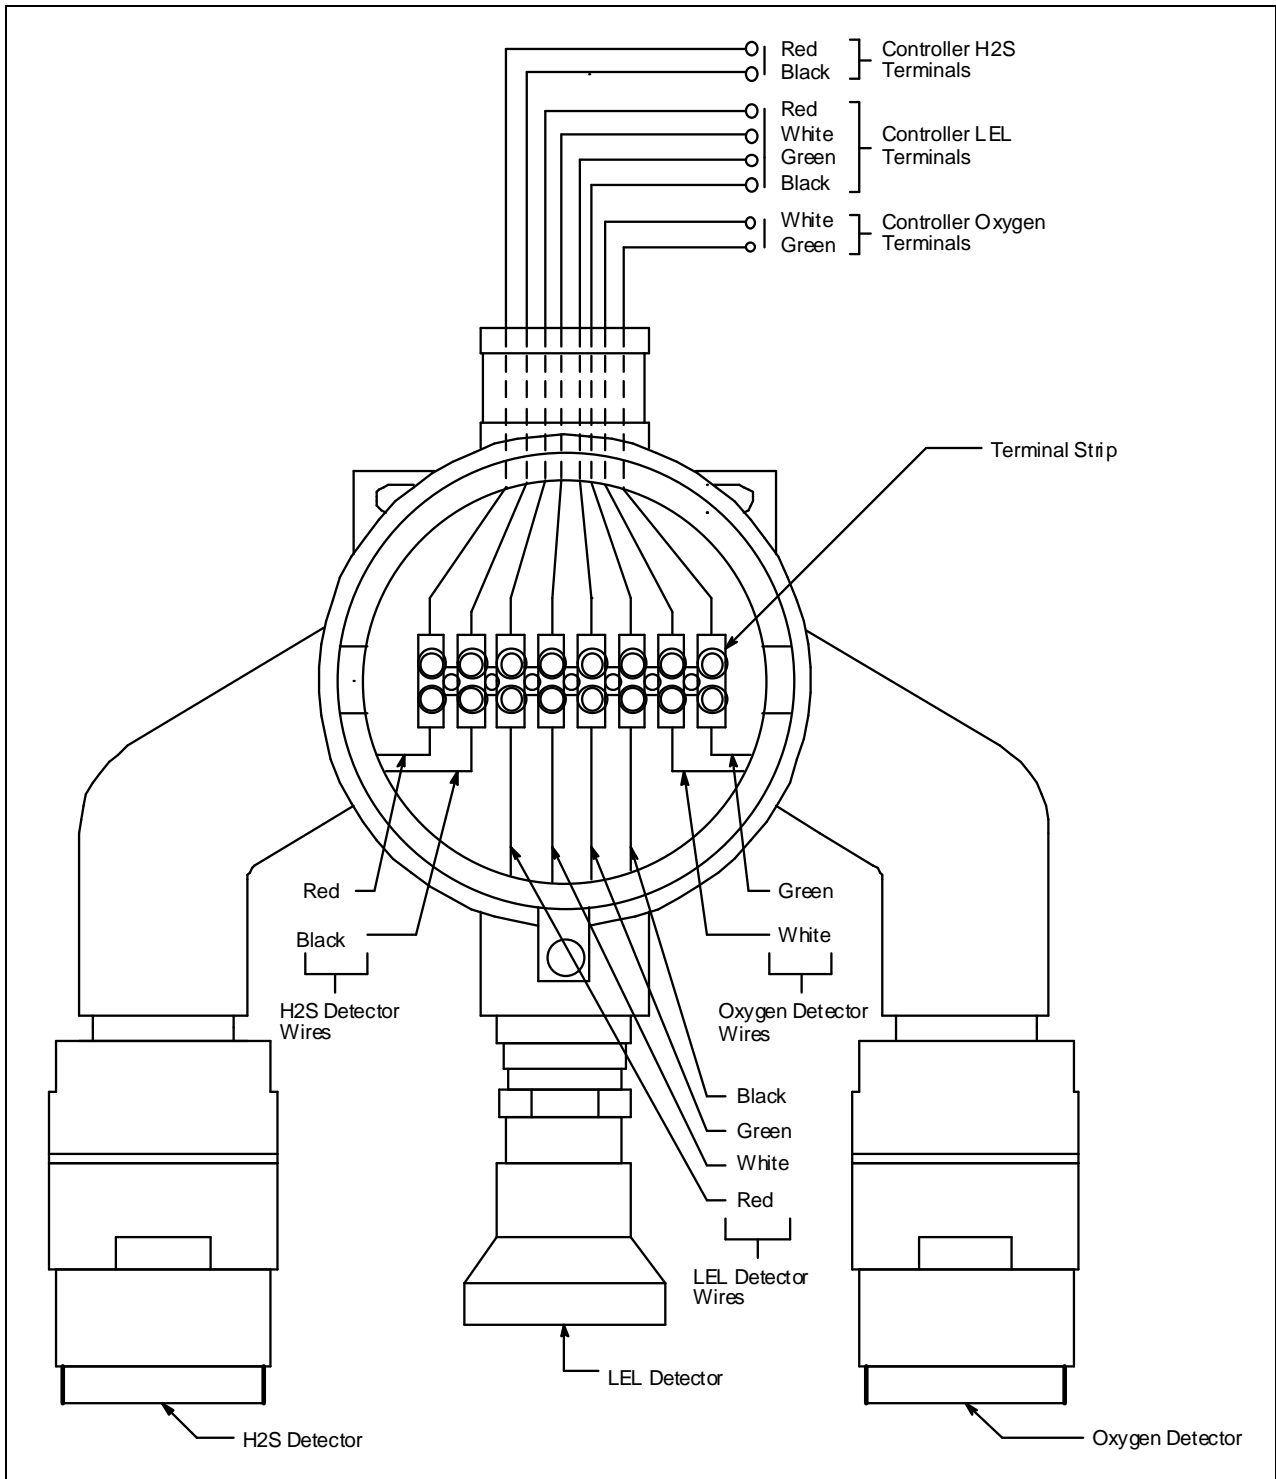
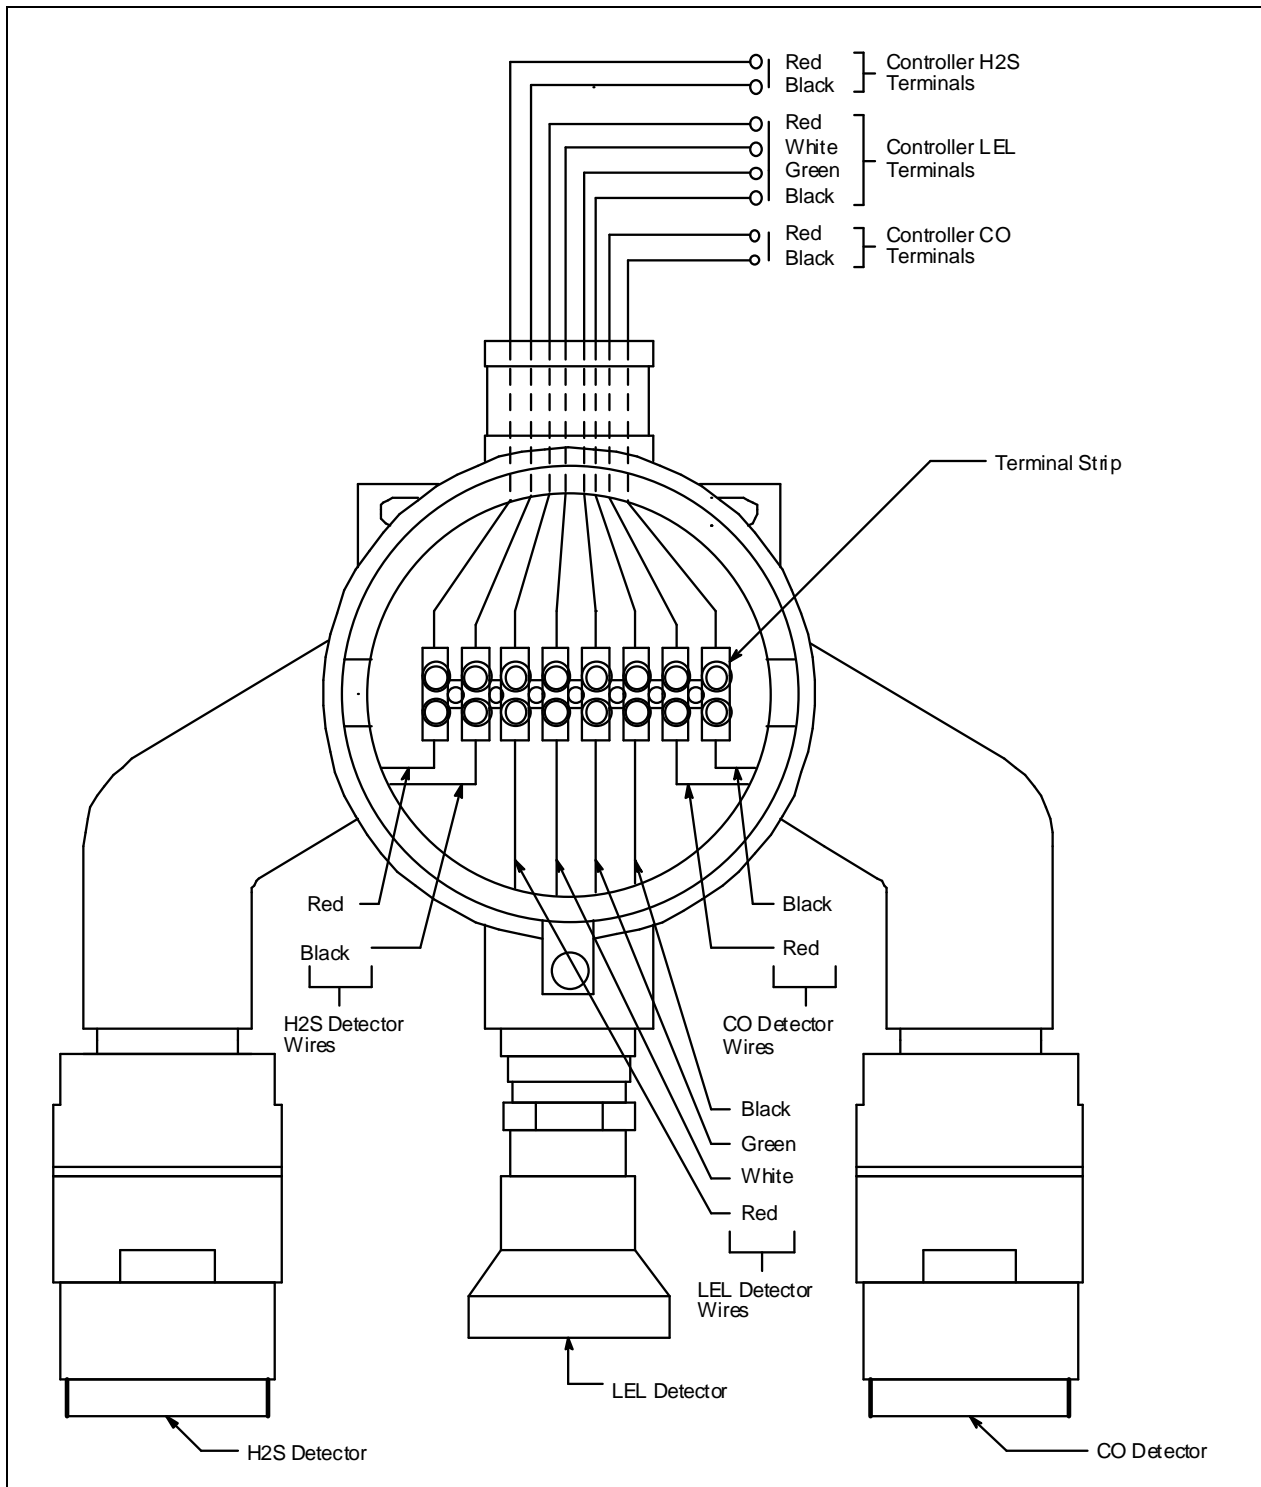

Figure 15: Wiring the 65-2480RK-01 to a Controller
Figure 23: Wiring a 65-2480RK-54 to a Controller
8. Connect the wires to the applicable controller terminal strips. See the controller operator's manual and the controller's detector head specification sheet. Also see Figure 15-Figure 23 for wiring diagrams for each detector model.
- Connect the detector leads to the terminal block the same way the old detector was wired. See the controller operator's manual and the controller's detector head specification sheet for the LEL detector to verify the connections are correct. Also see Figure 15-Figure 23 for wiring diagrams.
7. Connect the detector leads to the terminal block the same way the old detector was wired. See the controller operator's manual and the controller's detector head specification sheet for the oxygen detector to verify the connections are correct. Also see Figure 15-Figure 23 for wiring diagrams.